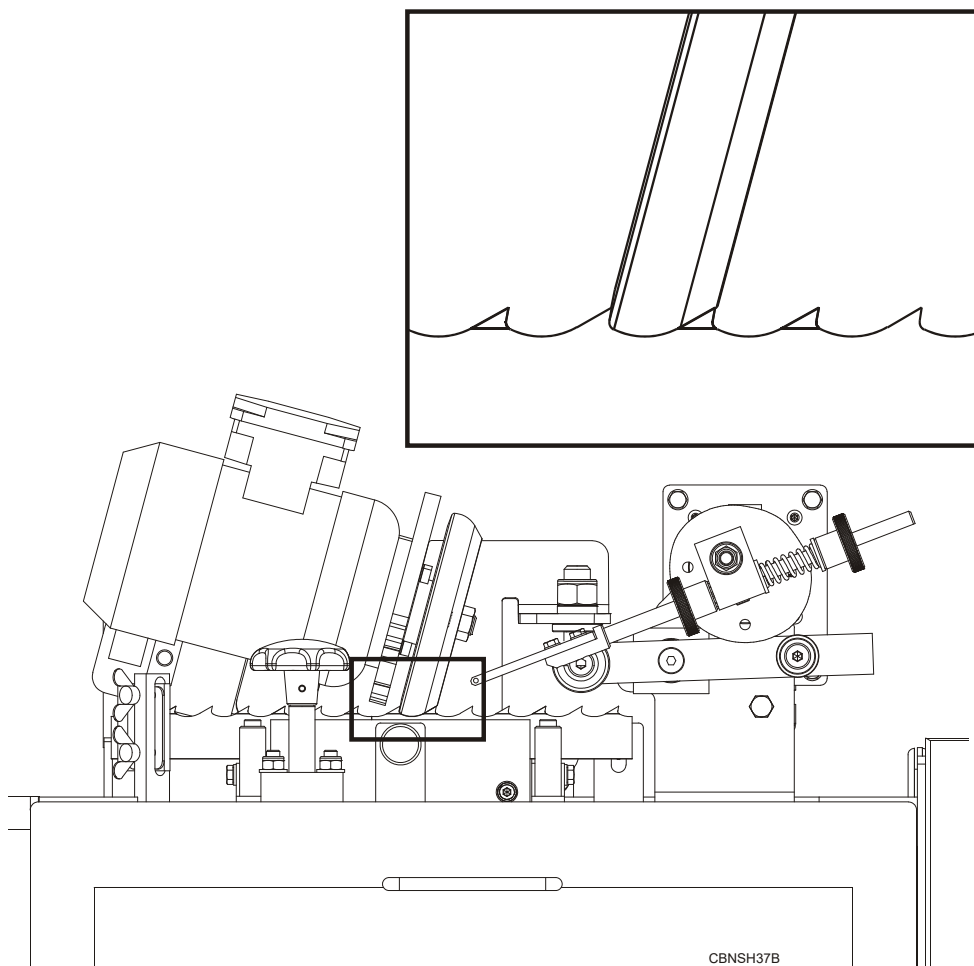

**FIG. 2-7**
**See Figure 2-7.** If the face grind is too light, turn the face grind adjustment knob out away from the other knob. If the face grind is too heavy, turn the adjustment knob in toward the other knob.